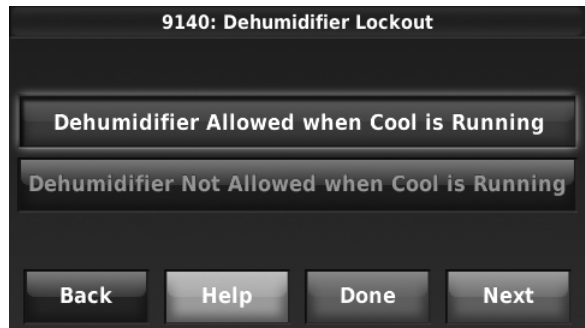

Fig. 247.
- Set the desired lockout option. See Fig. 247.